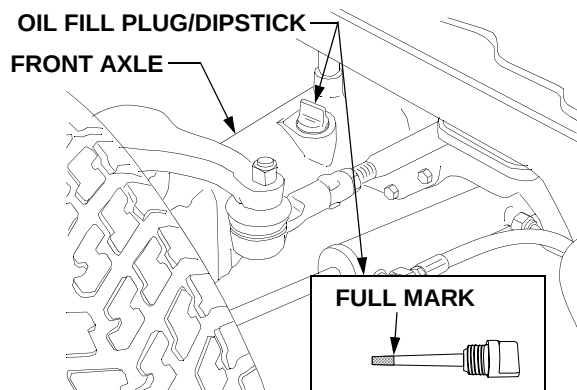

Figure 44
- The oil fill plug/dipstick is located on the *left* side of the axle housing. See Figure 44.
- Clean the area around the oil fill plug/dipstick to prevent debris from entering the axle housing. See Figure 44.
- Withdraw the dipstick and wipe it clean, then reinsert and screw in all the way. Unscrew and withdraw again to read the oil level. Always keep the oil level between the bottom and the full mark of the dipstick (See Figure 44).
- To prevent debris from entering the front axle housing, clean the area around the oil fill plug/dipstick and the axle drain plug located at the center front of the axle. Refer to Figure 44 and Figure 46.